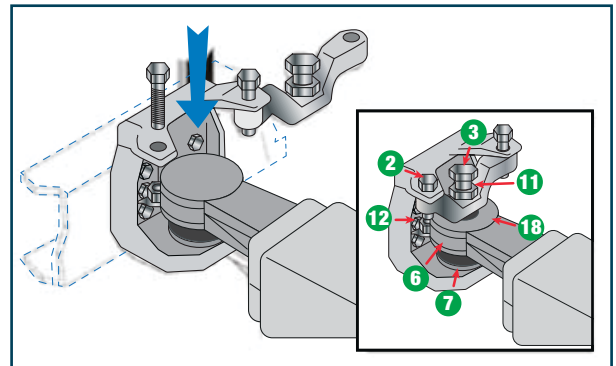

Figure 6.14
- Protect the part that is still visible of the coupling ball (5) with the rubber dust proof bellows protection cover (7). Accurately anchor the edge directly onto the ball itself. (Figure 6.14)